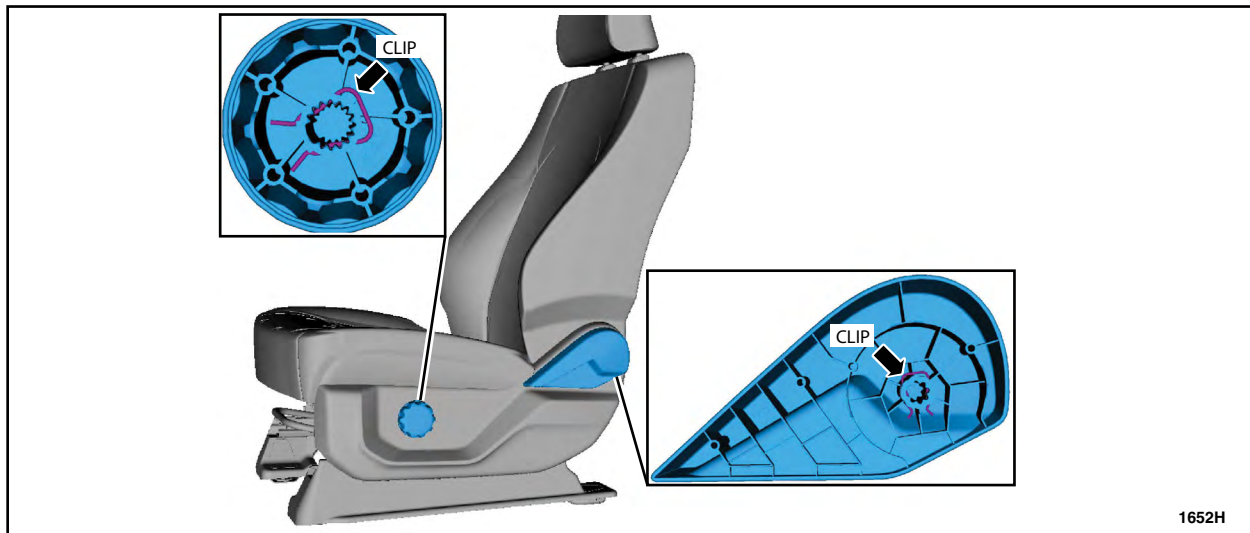

FIGURE 13
3. Remove the recline handle and lumbar knob (if equipped). See Figure 13.